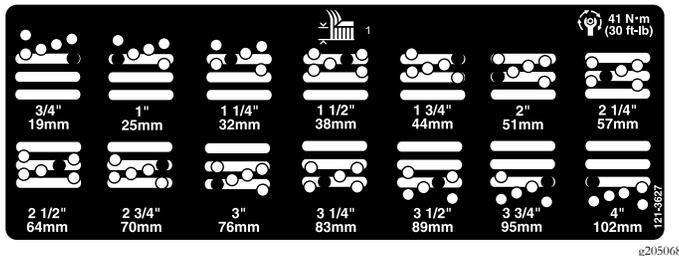

Figure 13
5. Move the chamber to the desired height of cut and install a spacer into the designated height-of-cut hole and slot (Figure 13).